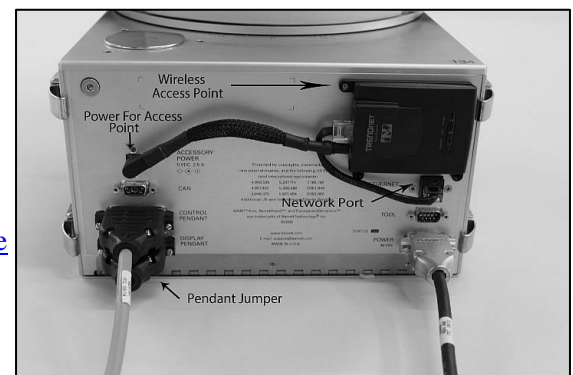

Figure 2
- Mount the provided wireless access point (AP) to the WAM backplate and connect it to the network port of the WAM as shown in Figure 2